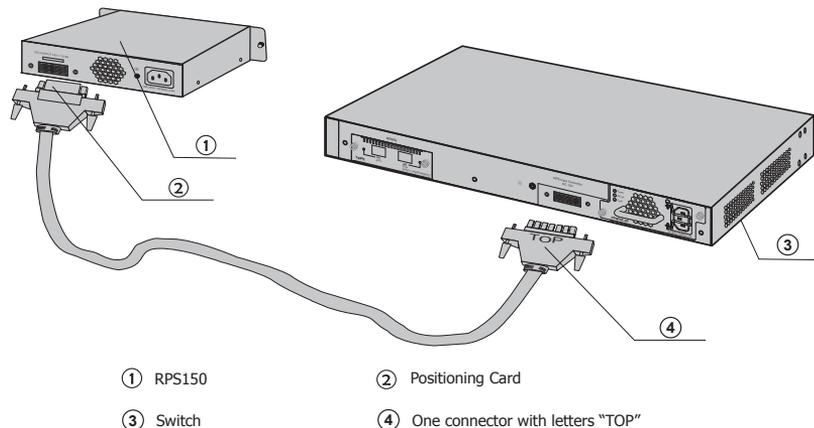

Figure 3-3 Connecting to the Powered Switch
3. Connect the RPS150 and the switch with DC power cord, as illustrated in Figure 3-3. One end of the DC power cord is marked by the letters "TOP" and the other end has a positioning card attached to it. Plug the end with the letters "TOP" into the input socket of the switch with "TOP" facing up and the other end with positioning card into the DC output socket of the RPS150 with the positioning card facing up.